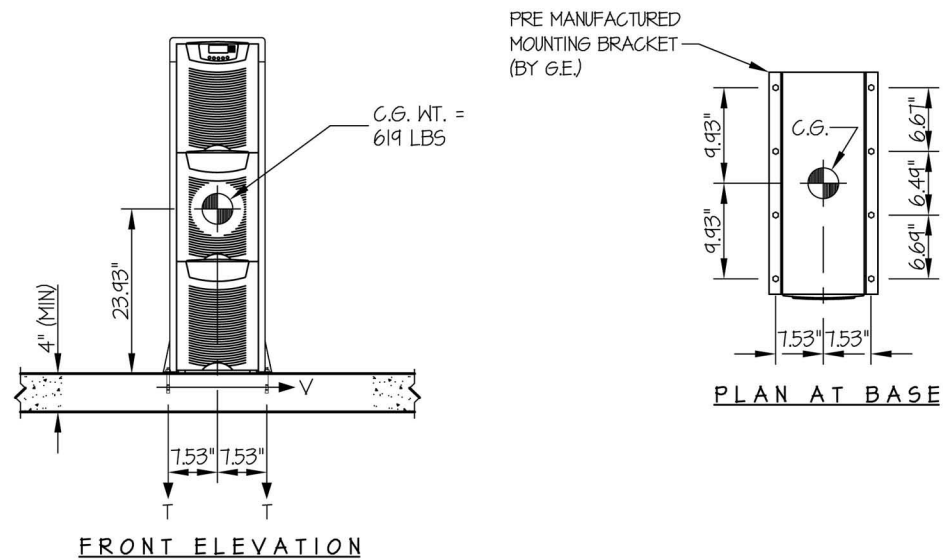

Figure 8-15 Uninterruptible Power Supply (UPS)
- Uninterruptible Power Supply: Figure 8-15